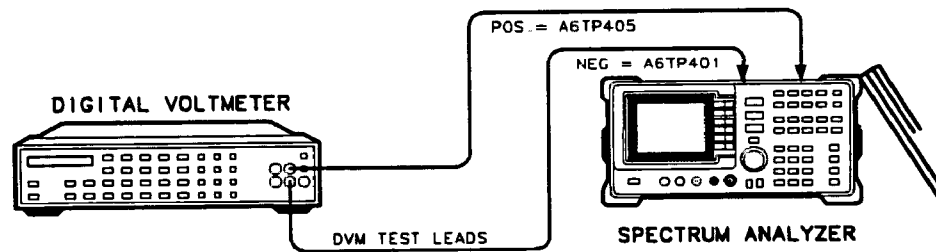

Figure 2-1. High Voltage Power Supply Adjustment Setup
2. Position the HP 8562A/B as shown in Figure 2-1. Connect the positive DVM lead to A6TP405 and the negative DVM lead to A6TP401.